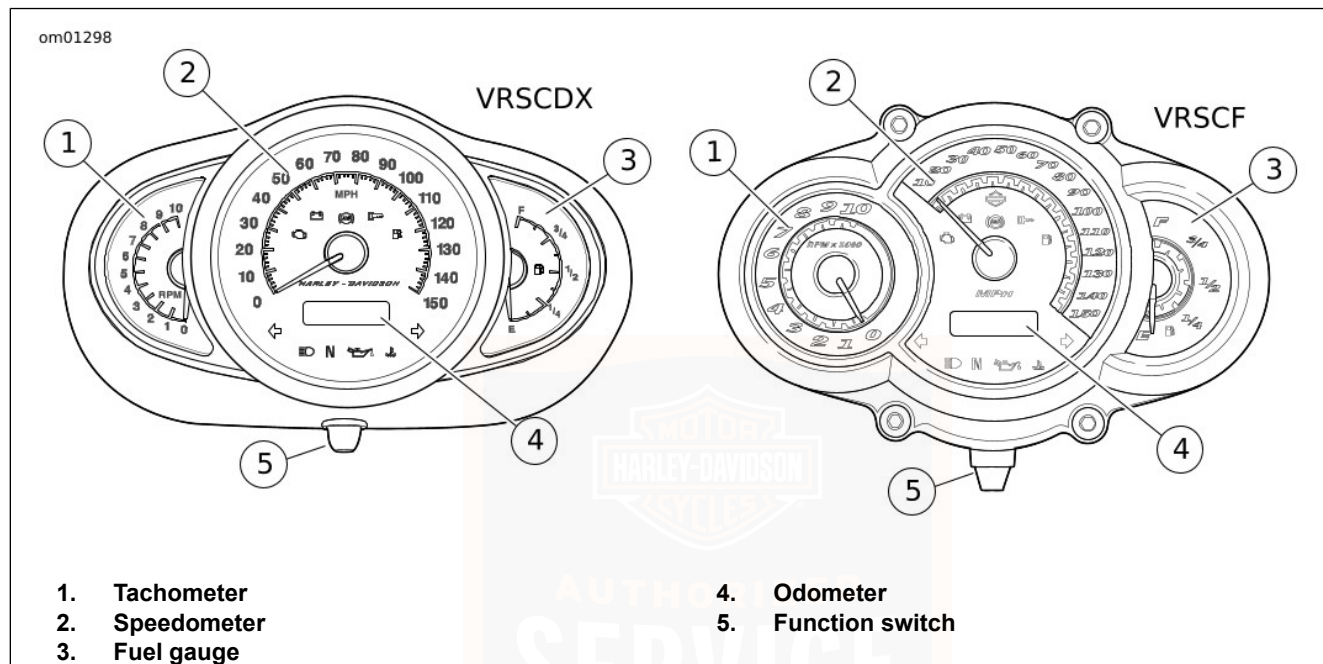

Figure 10. Instrument Cluster
See Figure 10. The speedometer registers miles per hour (U.S. models) or kilometers per hour (international models) of forward speed. The speedometer also provides the following selectable functions:
1. See Figure 10. Pressing the function switch with the ignition switch in any position activates the odometer reading and time. Time and mileage or kilometers can be checked without unlocking ignition switch. Press and release function switch once to view odometer. Press and release switch again to display time.
2. See Figure 10. Press function switch until time (hour and minutes) is displayed. Press and hold the function switch for five seconds or until 12HR begins to blink in the speedometer display window. Release the button.
See Figure 10. The tachometer registers the engine speed in revolutions per minute (rpm).